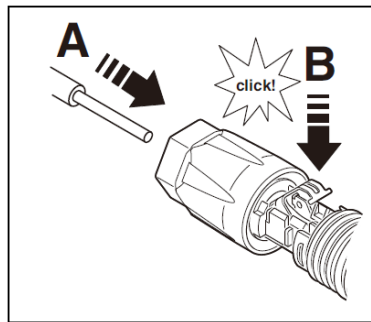

Figure 5-12
- 4) Carefully insert the stripped wire with twisted conductors all the way in (Figure 5-12, A). The litz wire ends have to be visible in the spring.
- 5) Close the spring. Make sure that the spring is snapped in (Figure 5-12, B).
7. Tighten the cable gland to 2 Nm (Figure 5-12, D). Use a suitable and calibrated torque wrench of size 15. Use an open-jaw wrench, size 16, to hold the connector in place.